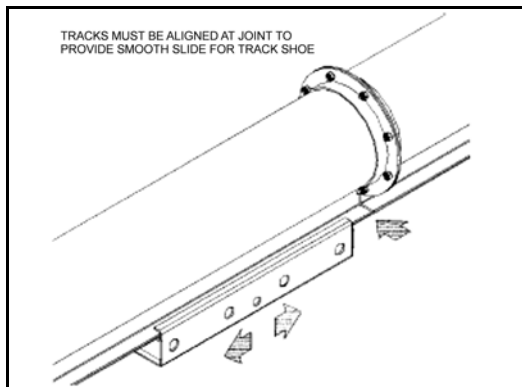
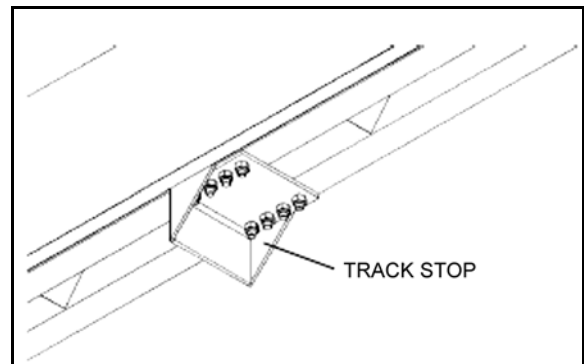

Figure 3.4
Figure 3.5
- ➔ 2. **MK130 Plus 81'**: the track shoe has 4 rollers (Figure 3.4) and the track stop is attached using 8 bolts and locknuts (Figure 3.5).